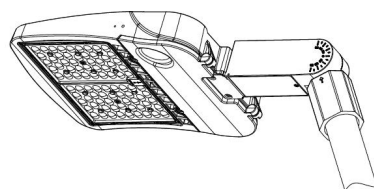

Fig.12
**For Type F Description 8, see Fig.12**